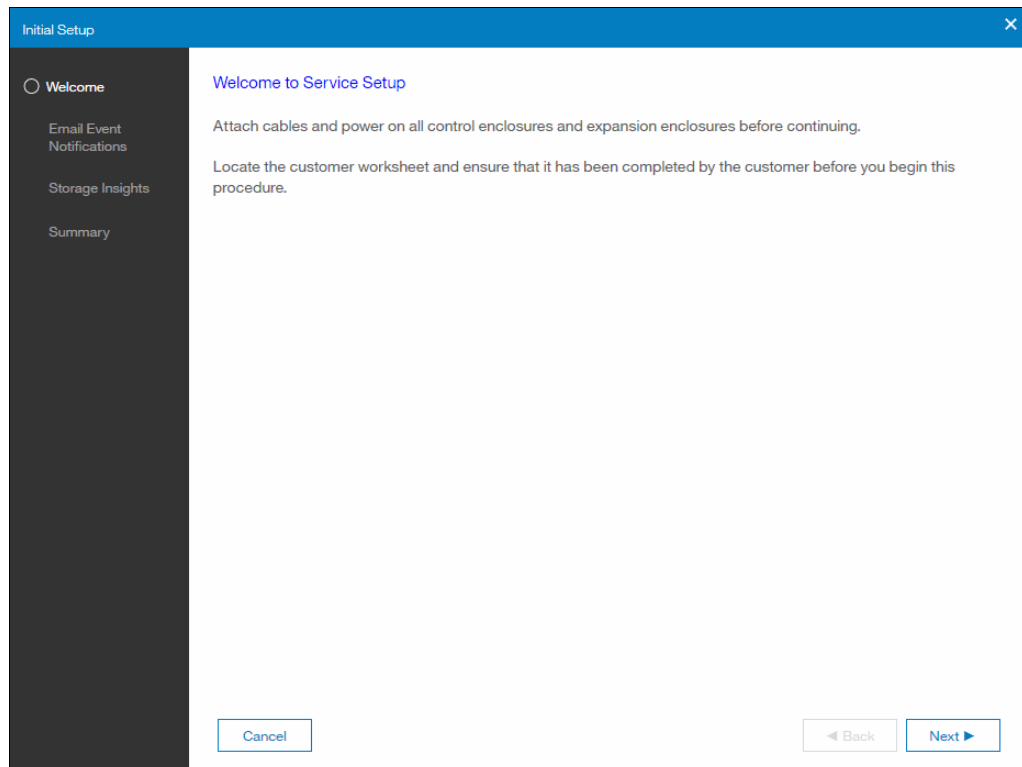

Figure 6-61 Welcome to service setup screen
4. The Welcome to Service Setup screen is displays (Figure 6-61).